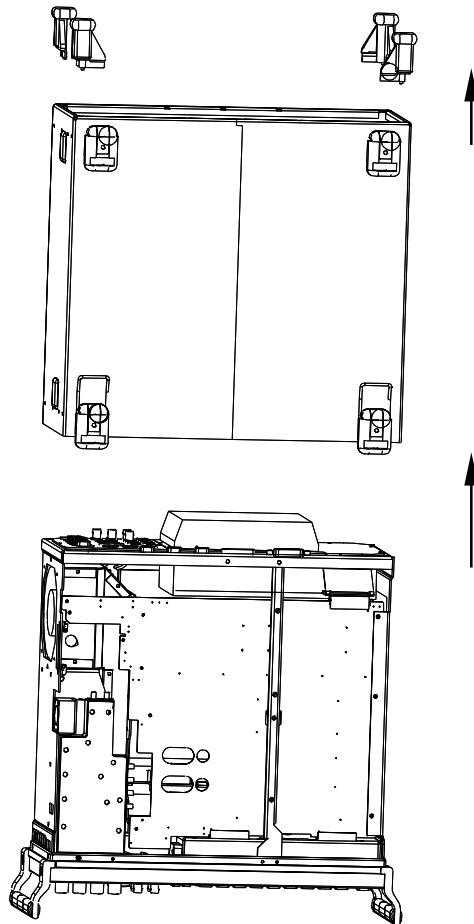

Fig. 1
- Place unit on handles at the front, push casing upwards and remove (Fig. 1).